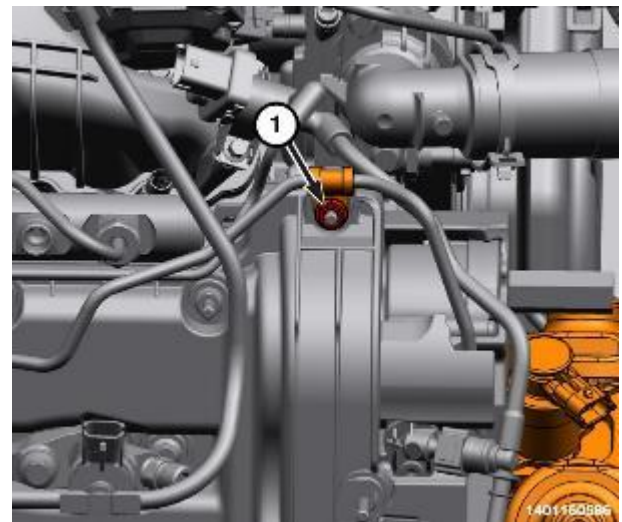

Figure 165 – Pipe Nut
31. Remove the nut (1) securing the fuel tube (Figure 165).
50. Install the nut (1) securing the fuel tube and tighten to 11 N·m (8 Ft. Lbs.) (Figure 165).